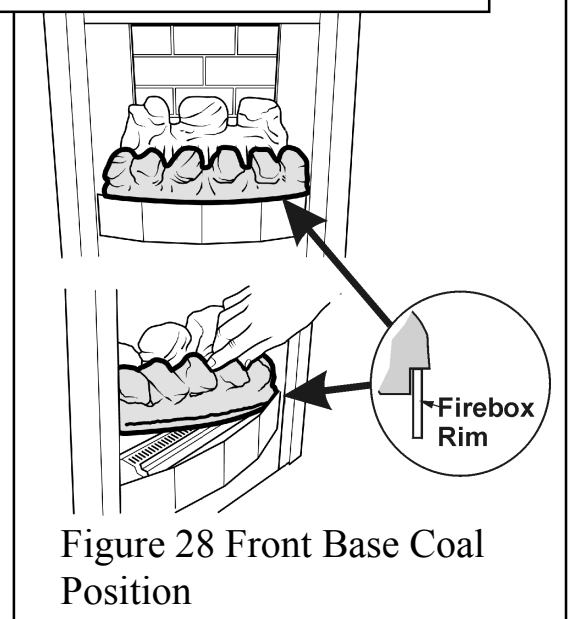

Figure 28 Front Base Coal Position
3. Place the front base coal in the firebox with its bottom front locating over the front rim of the firebox. Pull the coal forward so that it locates immediately behind the front rim of the firebox. See figure 28.